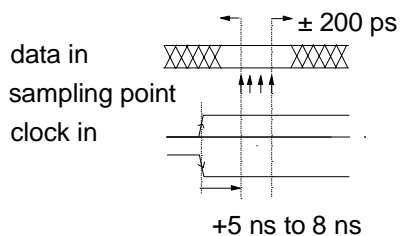

Figure 9: Relationship between clock, data, and internal sampling point.
- with external analyzer clock: between +5 ns and 8 ns after the rising of falling edge of the external analyzer clock. 10 ps resolution (See Figure 9.)